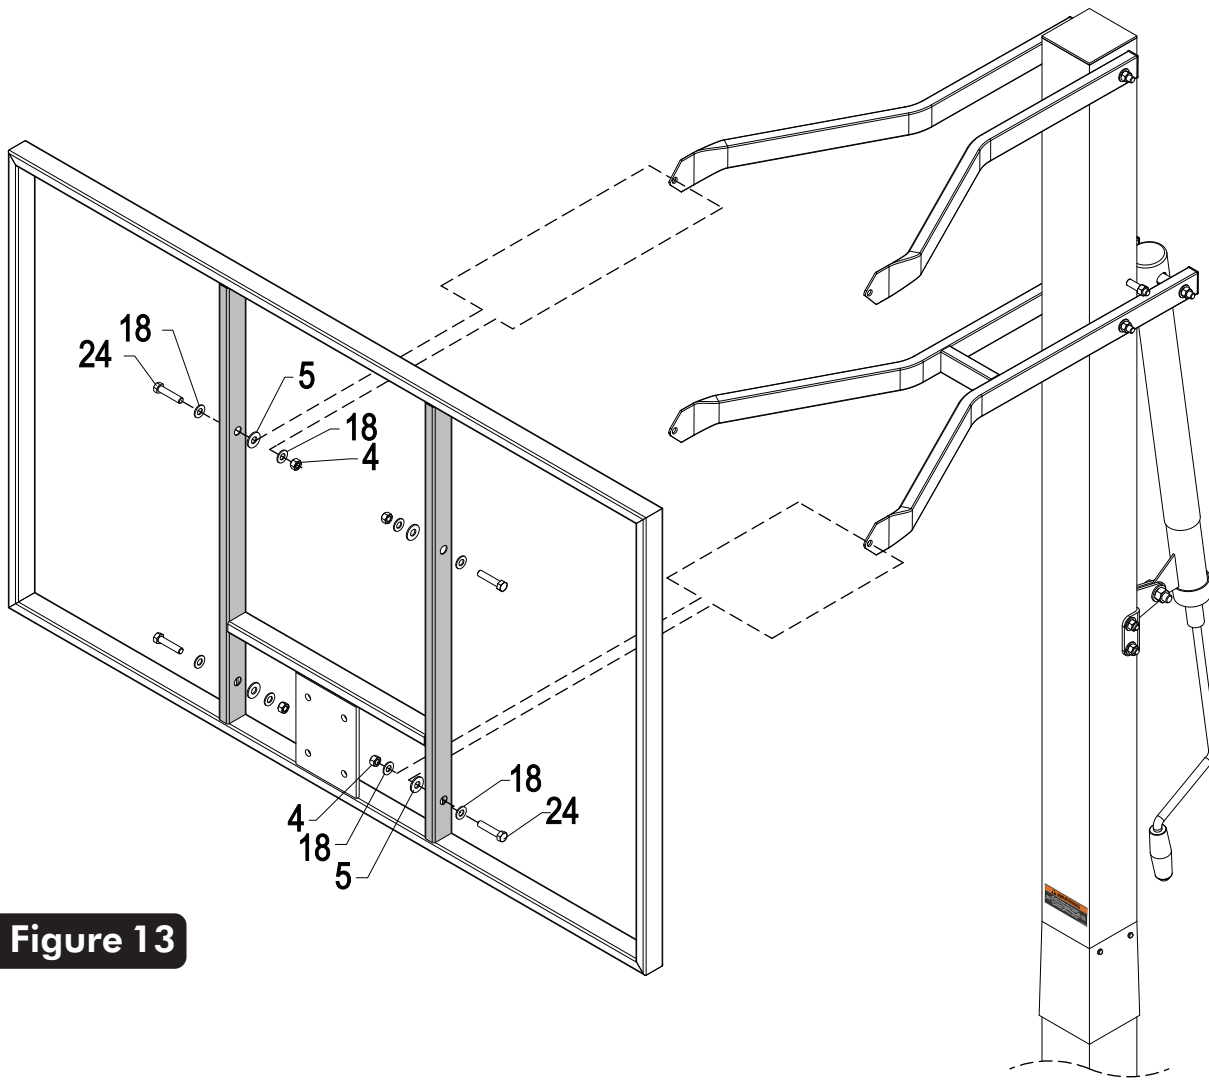

Figure 13
18. With at least two capable people, raise the backboard assembly up and have the third attach Lower Board Arms to lower mounting tubes on backboard using two bolts (#24), two plastic washers (#5), four washers (#18) and two lock nuts (#4). See **Figure 13**.
19. Attach Upper Board Arms to upper mounting tubes on backboard using two bolts (#24), two plastic washers (#5), four washers (#18) and two lock nuts (#4). See **Figure 13**.